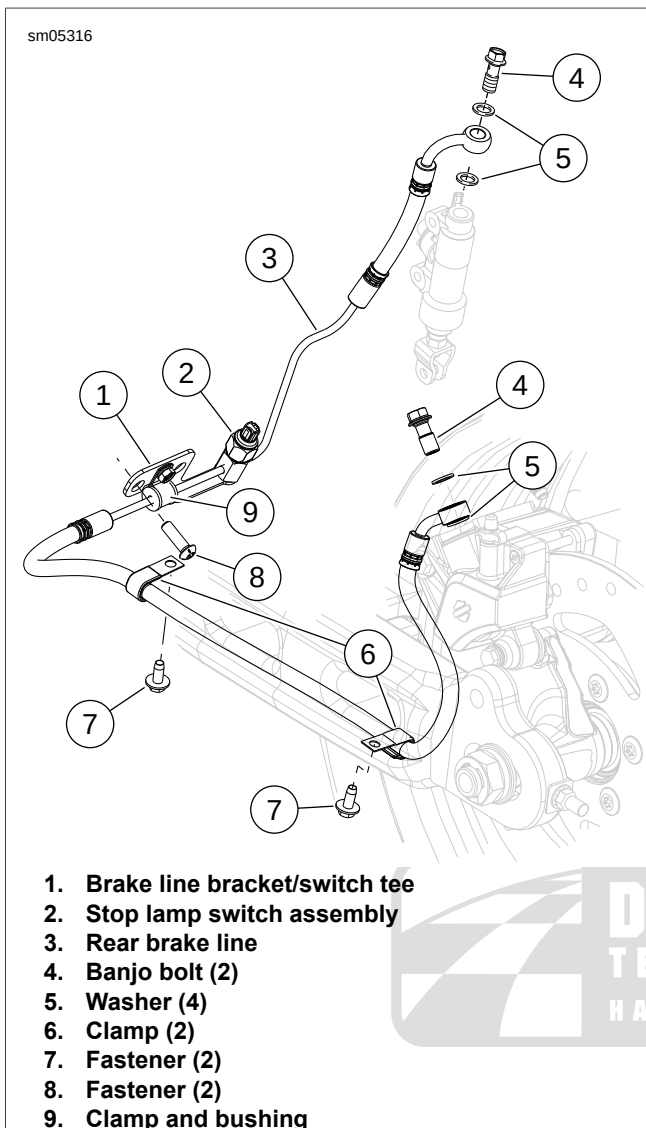

Figure 2-132. Rear Brake Line: XR 1200X
3. See Figure 2-132. Unplug harness connectors [121] from stop lamp switch (2).
4. Remove banjo bolts (4) and washers (5) to detach rear brake line (3) from master cylinder body and rear brake caliper. Discard washers.
5. Remove fasteners (7) to detach brake line clamps (6) from rear fork.
6. Remove fasteners (8) securing brake line bracket/switch tee (1) to lower frame.
8. If necessary, remove clamp and bushing (9).
1. See Figure 2-132. Thread stop lamp switch (2) into brake line bracket/switch tee (1) on rear brake line (3). Hold hex body of brake line bracket/switch tee with an open-end wrench. Using a 1.0-in six-point deep socket, tighten stop lamp switch assembly to 132-168 **in-lbs** (14.9-18.9 Nm).
2. If removed, install clamp and bushing (9).